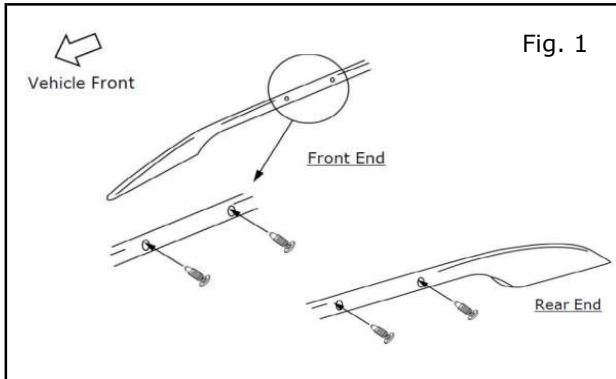

Fig. 1
- 1) Remove 8X plastic plugs from roof rails as shown in Fig 1 using T30 Torx tool (D).